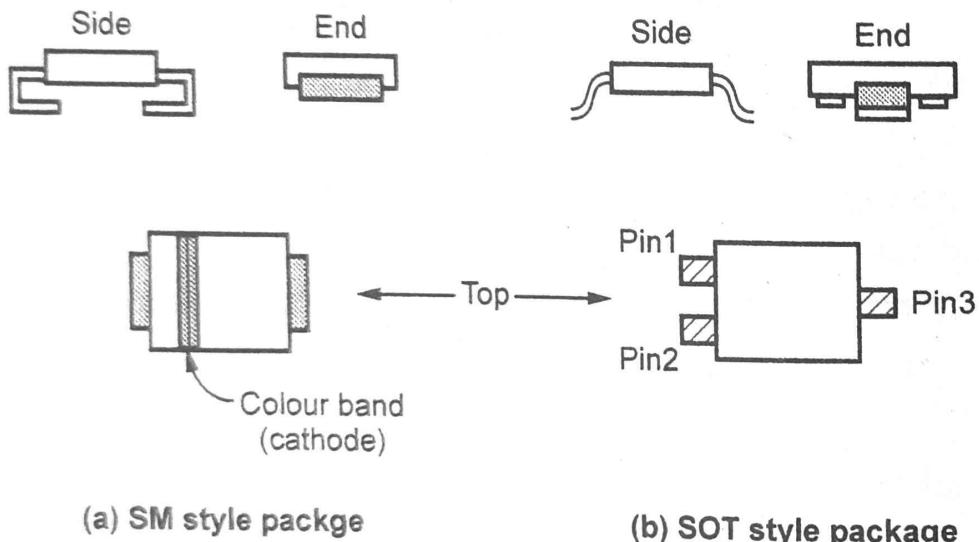

Fig. Q.12.1
- The surface mount (SM) is one of the package styles used in the industry.
- The Fig. Q.12.1(a) shows the two terminal surface mount style package used for the surface mount diodes.
- The Fig. Q.12.1(b) shows SOT style package.